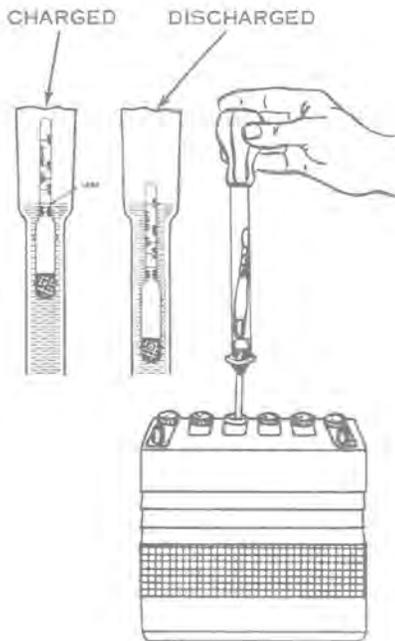

Figure 6-29
4. Keep the battery nearly fully charged at all times. Check the state of charge at frequent intervals by making specific gravity readings with a battery hydrometer (see Figure 6-29). Note that a hydrometer reading is not accurate if water has been added recently, due to the fact that the water may not be mixed with the electrolyte.